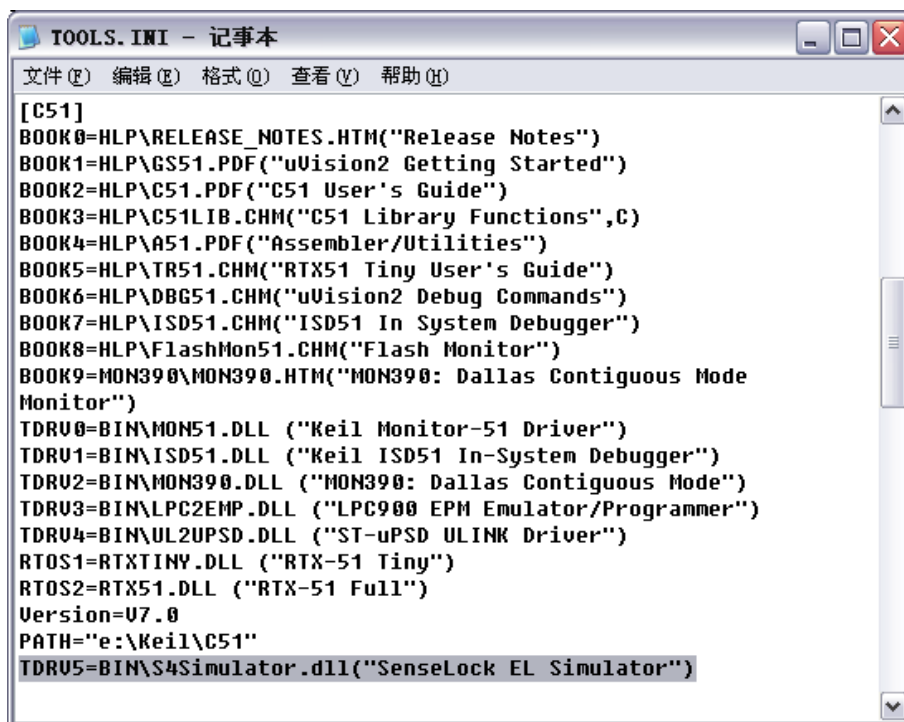

Figure 5-5 Keil C51 Simulator Configuration
2. Open the configuration file %KEIL%\Tools.ini and add the following to the [C51] section of the file: TDRV0=BIN\S4Simulator.dll("Senselock ELSimulator"). If TDRV0 is already used, use the next available number TDRV1, and so on , as shown in Figure 5-5.